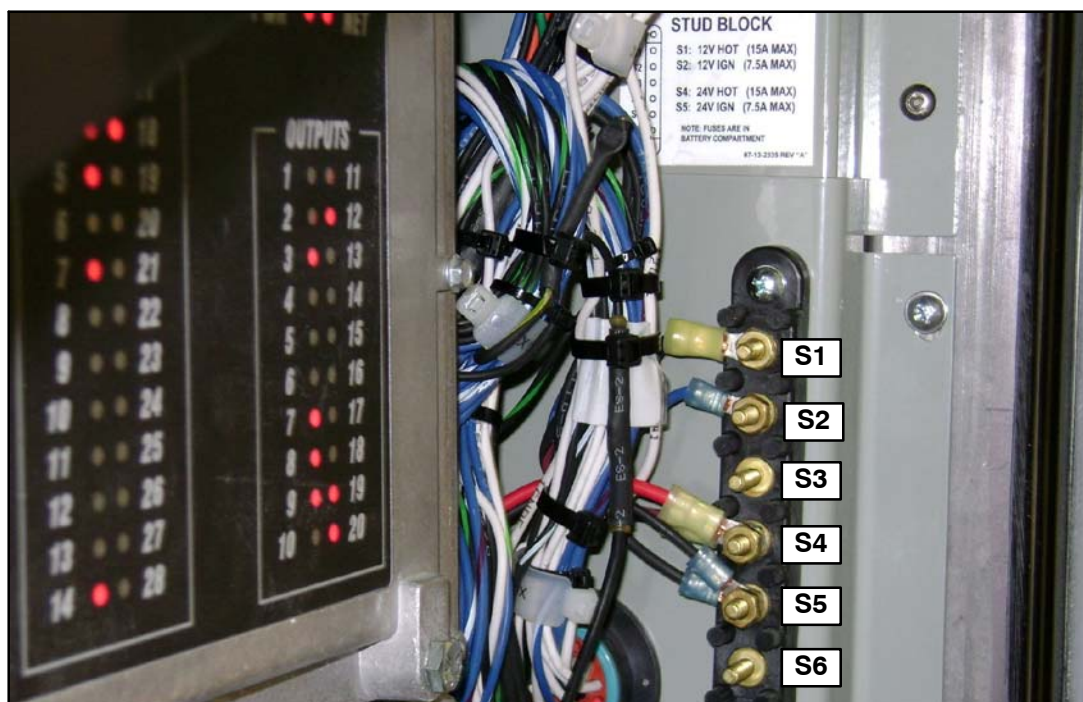

Figure 1.
4. Locate the stud block on the compartment wall (refer to Figure 1).